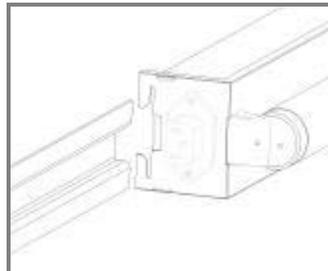

Figure 3
1. Align first module with rail and slide module onto rail, with the "plug" end of the module pointed toward the far end of the rail, **Figure 3**.